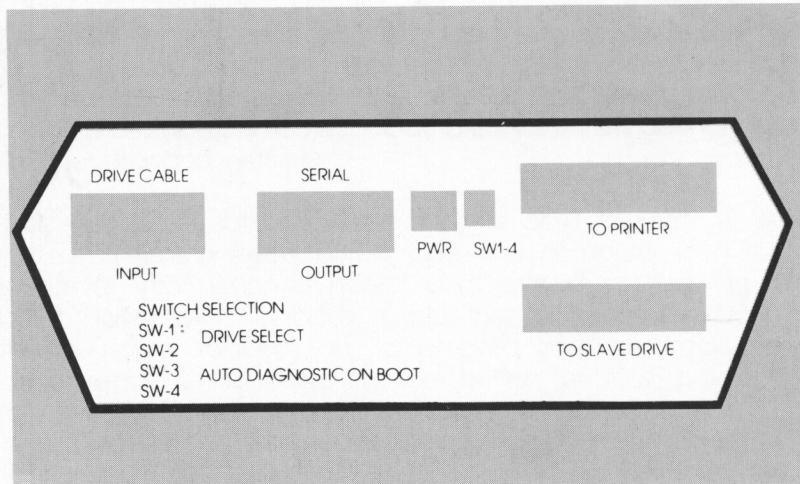

figure 3 Power and Peripheral Connections for 'AT' Series Drives
- figure 3 Power and Peripheral Connections for 'AT' Series Drives
2. Plug the AC adapter into an electric outlet. Plug the other end into the hole marked PWR on the back of the disk drive (see figure 3).
3. If you wish to use another Atari peripheral such as a cassette recorder just plug it into the jack marked OUTPUT on the back of the disk drive (see figure 3).
1. Plug the flat end of our AT-PC printer cable into the jack on the back of the disk drive marked TO PRINTER (see figure 3).